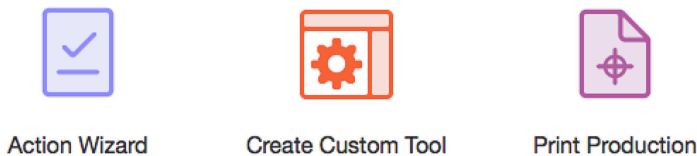

Figure 51
3. In the Tools window (Figure 51) select Print Production.